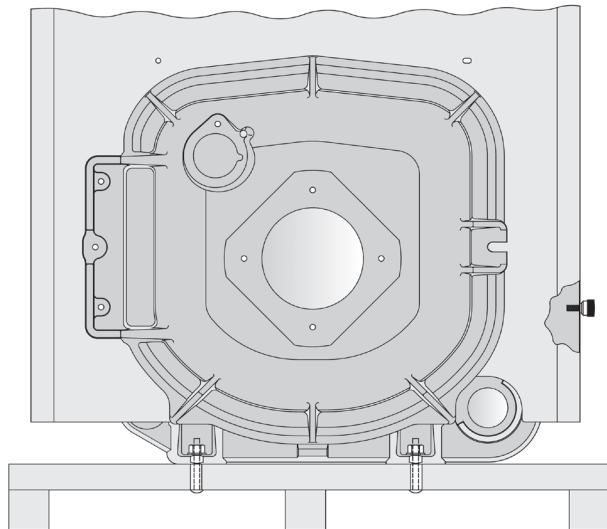

Figure 11 : Packaged Boiler Removal from Skid
1. Boiler is secured to base with 4 bolts, 2 in front and 2 in rear of shipping skid, see Figure 11. Remove all bolts.